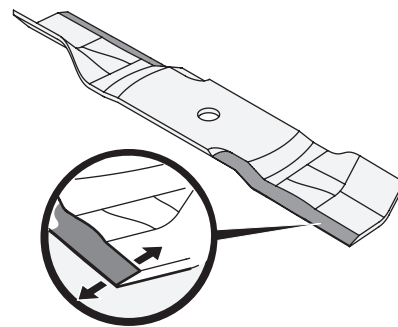

Figure 4-28
3. To properly sharpen the cutting blades, remove equal amounts of metal from both ends of the blades along the cutting edges, parallel to the trailing edge, at a 25°-30° angle. Always grind each cutting blade edge equally to maintain proper blade balance. See Figure 4-28.